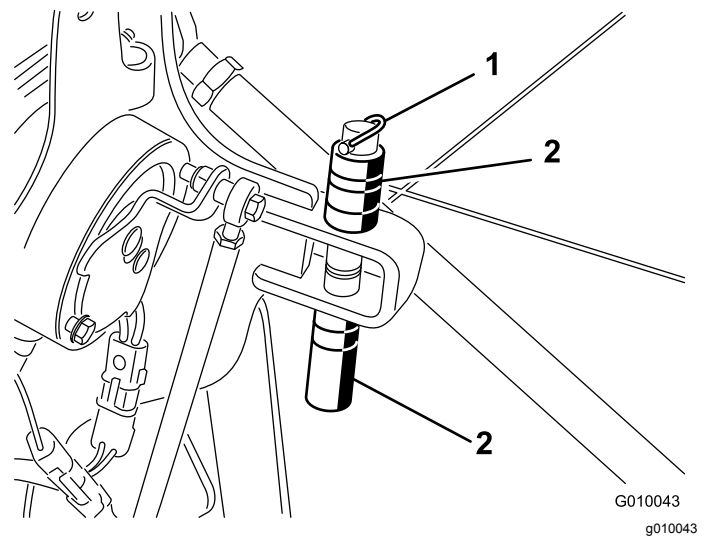

Figure 22
2. Remove the lynch pin retaining the spacers and depth pins (Figure 22).